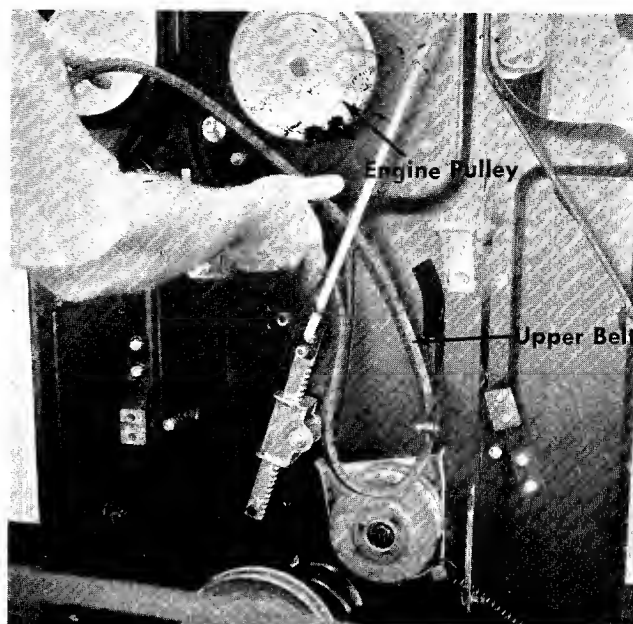

FIGURE 33. REMOVING THE UPPER BELT
Step 12. Unhook the upper belt from the engine pulley and remove. See figure 33.